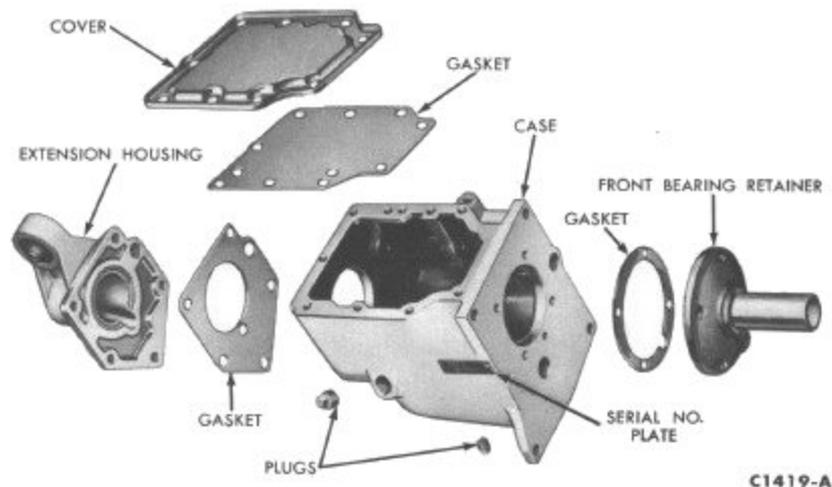

FIG. 42—Transmission Case and Related Parts
2. Remove the 9 cap screws that attach the cover to the case. Remove the cover and the gasket (Fig. 42) from the case.